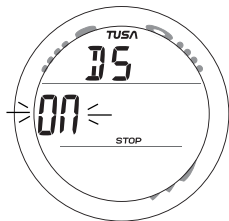

Fig. 46 - SET DEEP STOP
**Set Deep Stop** information includes (Fig. 46):